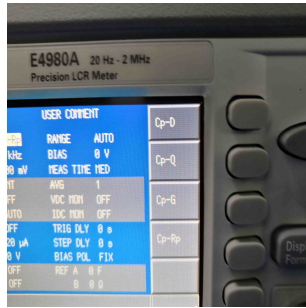

Figure 3: $C_p - R_p$ selection
1. Select $C_p - R_p$ by cursor-coving the row of FUNC after button MeasSetup. (Fig. 3)